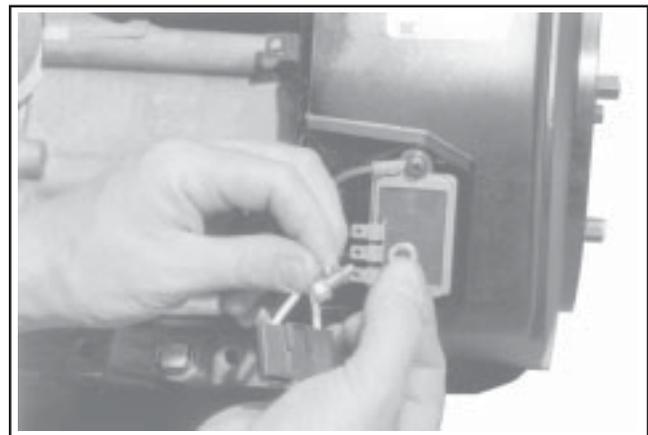
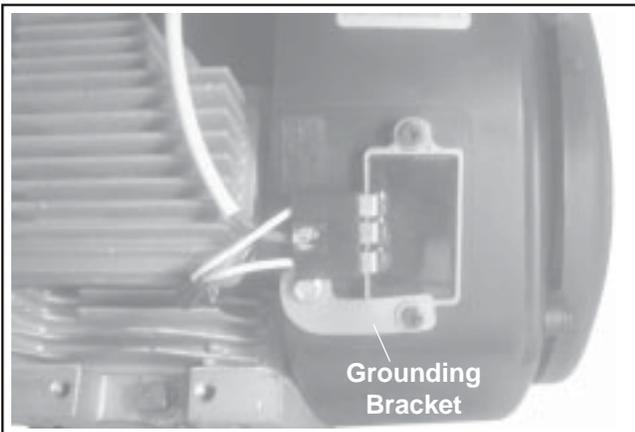

Figure 11-69. Connecting Ground Lead.
Figure 11-71. Grounding Bracket and Attached Connector.
1. Install the rectifier-regulator in the blower housing, if removed previously, then connect the rectifier-regulator ground lead with the washer and silver screw through the eyelet as shown in Figure 11-69. If a grounding bracket is used, secure with the lower mounting screw and washer, against the **outer** side of the rectifier-regulator. See Figure 11-71.